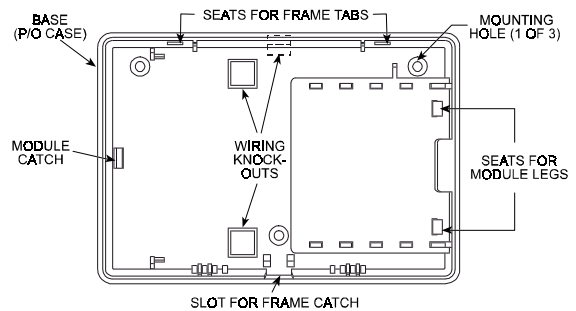

Figure 4. Base Layout
- C. Open one of the wiring knockouts (see Fig. 4). Route the wires in and secure the base to the wall or to the host system cabinet, using screws through the three round holes. Complete all wiring as instructed in Para. 3.2.